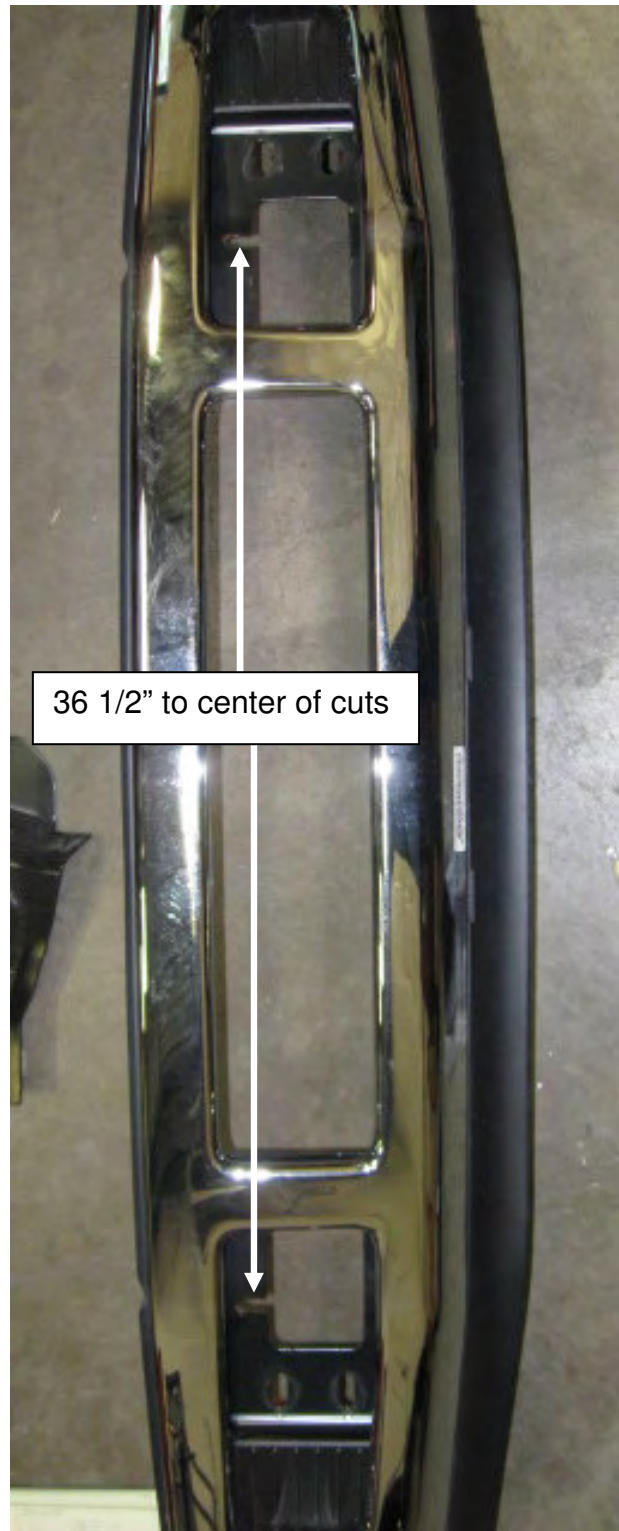

Figure 4: Cut slots in bumper brackets
- Trim slots in the factory bumper brackets to install the front bumper. See **Figure 4 and 5**. Use a drill motor with $\frac{1}{2}$ " bit and saw or use a cutting wheel or grinder to create the slots. The center of the slots should be $36\frac{1}{2}$ " apart.